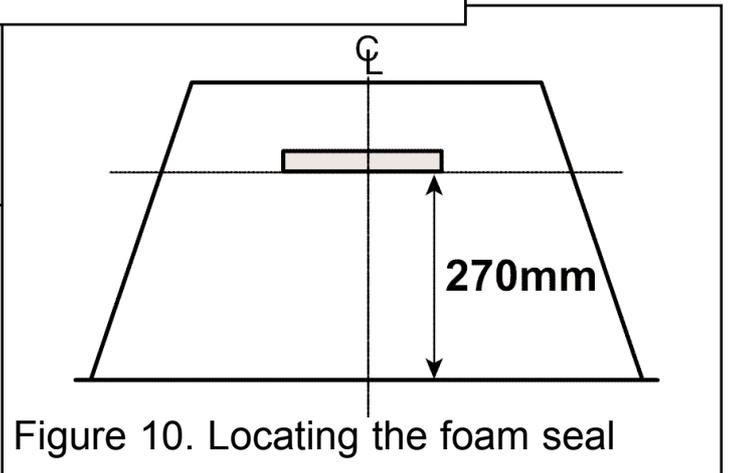

Figure 10. Locating the foam seal
3. Supplied with the chamber box is a small piece of self adhesive foam seal. Remove the paper backing and locate this to the base of the chamber box as in figure 10.